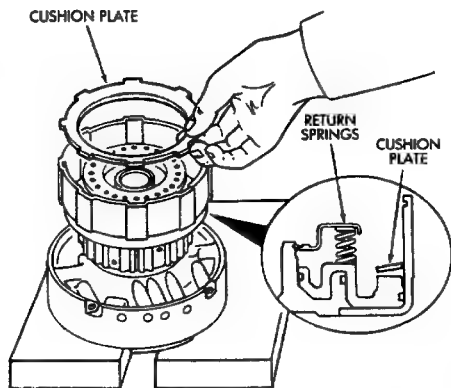

**Fig. 3 Checking Forward Clutch Piston Stroke Length**
- (4) Mount dial indicator on clutch drum. Position dial indicator plunger against clutch piston (Fig. 3).